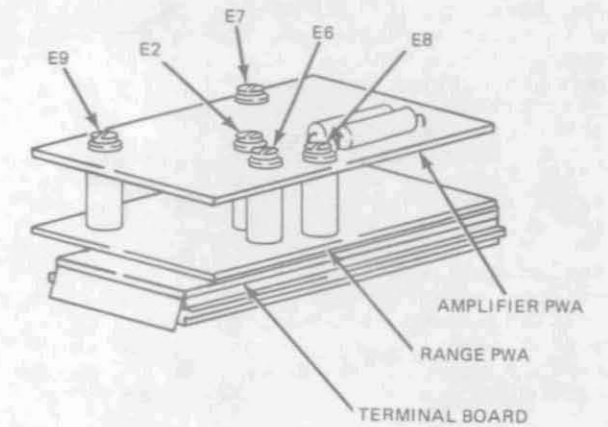

Figure 9
1. Remove the five screws (at E2, E6, E7, E8, and E9) connecting amplifier PWA to range PWA. (Figure 9).